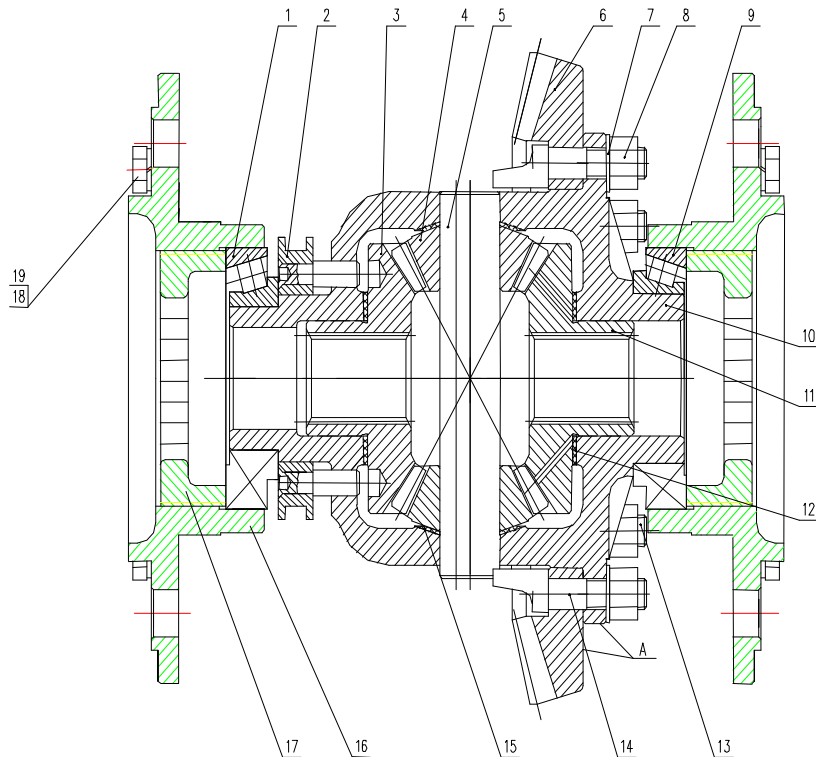

Figure 5-7 Adjustment of Differential Bearing
- Adjustment of differential bearing (Figure 5-7)
Large conical gear (Figure 5-7) is fixed on the differential housing with 6 bolts and 2 thrust bolts of planetary gear shaft. Both ends of the differential housing is installed with conical roller bearing, via differential and bearing seat, and installed on the rear axle housing with 6 screws. There are 2 planetary gears and 2 half-axle gears intalling in the differential housing. The gaskets are installed between the planetary gears and half-axle gears and between half-axle gears and differential housing. The planetary shaft is sheathed with planetary gear sleeve. One end of the planetary gear shaft is with notch to avoid turning and rippling of the planetary shaft.